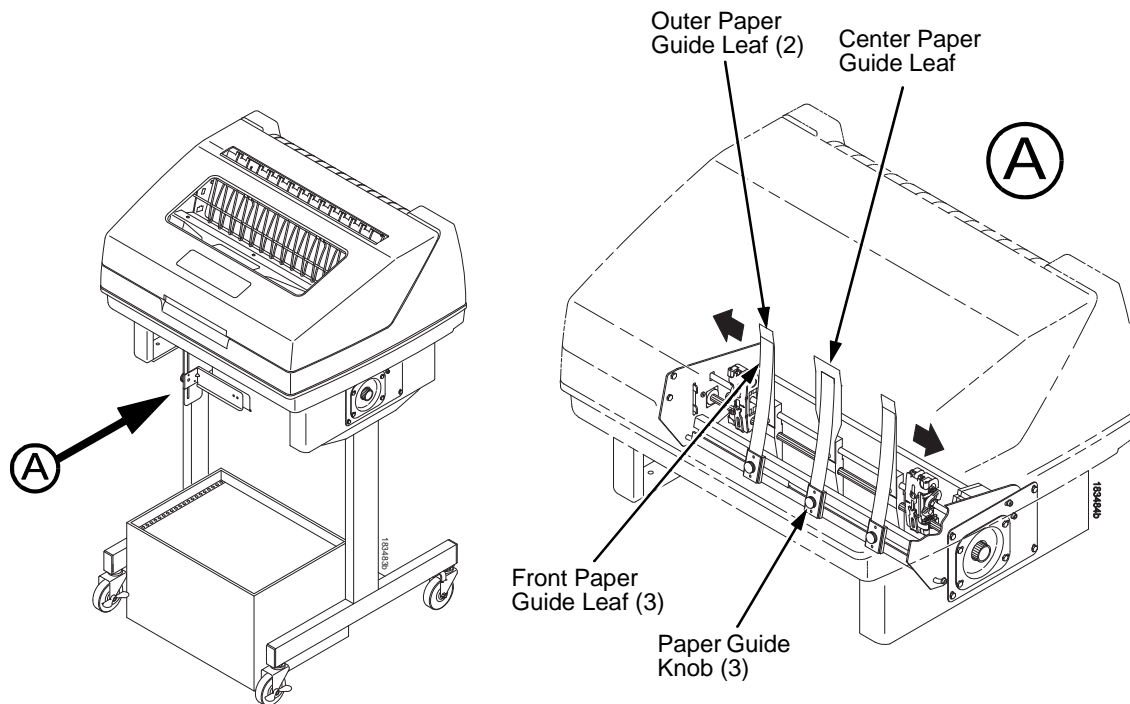

Figure 28. Adjusting The Paper Guides
1. Remove the left paper guide knob and the left, front paper guide leaf. (See Figure 28.)
7. Install the paper guide knobs and front paper guide leaves. (See Figure 28.)